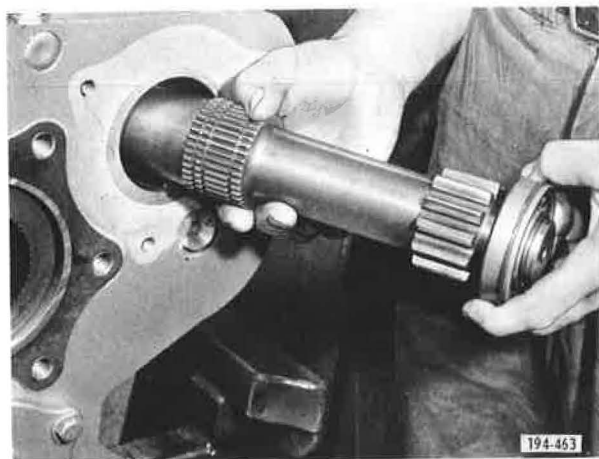

Figure 5-98. Installing Rear Countershaft
12. Position the transmission horizontally. Start rear countershaft through rear bearing opening in case. See Figure 5-98.